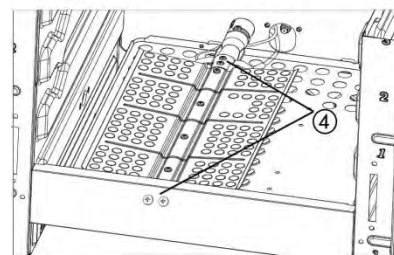

fig. 22
- Remove the burner securing screws (total 4) (fig. 22)
- Using a 7 mm box spanner, unscrew the injector (indicated in figure 22) and replace it using the new LPG injector.